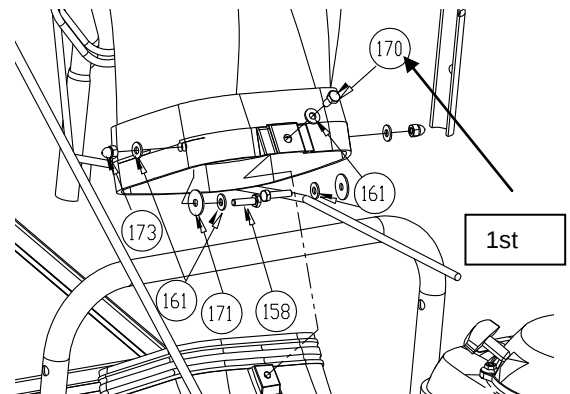

Fig. 2
(See Fig. 2)
3. Attach rest of hood assembly to the housing using corresponding hardware. *NOTE:* You will have to insert the bolt/washer from the inside by reaching through the hood. (See Fig. 2)